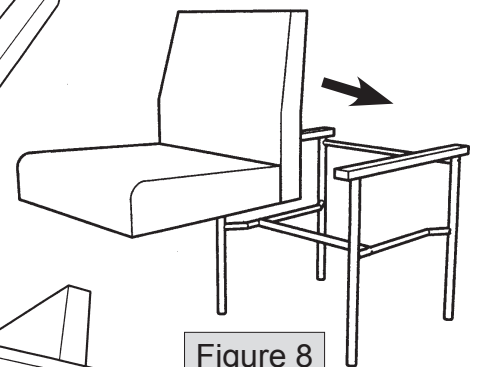
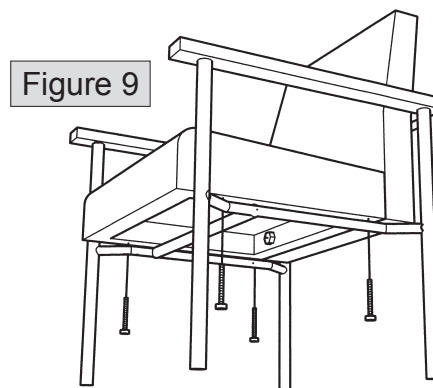

Figure 8
Figure 9
5. Set each cushion assembly into each chair frame as shown in figure 8. Align holes in frame with holes in cushions and connect using 3" Allen bolts as shown in figure 9.